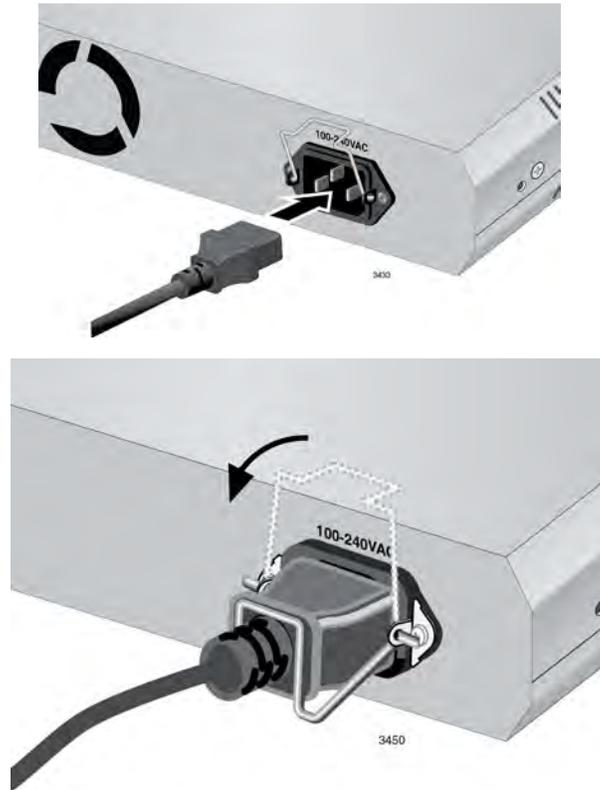

Figure 15. Plugging in the AC Power Cord
1. Lift up the retaining clip and insert the power cord into the AC power connector on the back of the switch, as shown in Figure 15.
2. Lower the retaining clip over the AC Power Cord as shown in Figure 15.